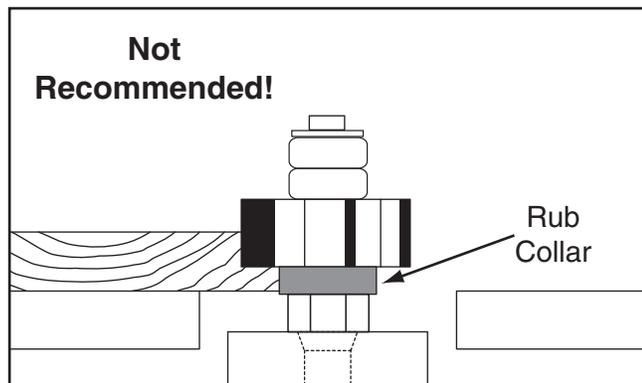

Figure 36. Cutting with rub collar below cutter.
1. **Rub collar below cutter:** When rub collar is placed below cutter, as shown in **Figure 36**, progress of the cut can be observed. However, any unintentional movement may lift workpiece into the cutter, damaging your work and creating a dangerous situation. *We DO NOT recommend using rub collar in this position.*